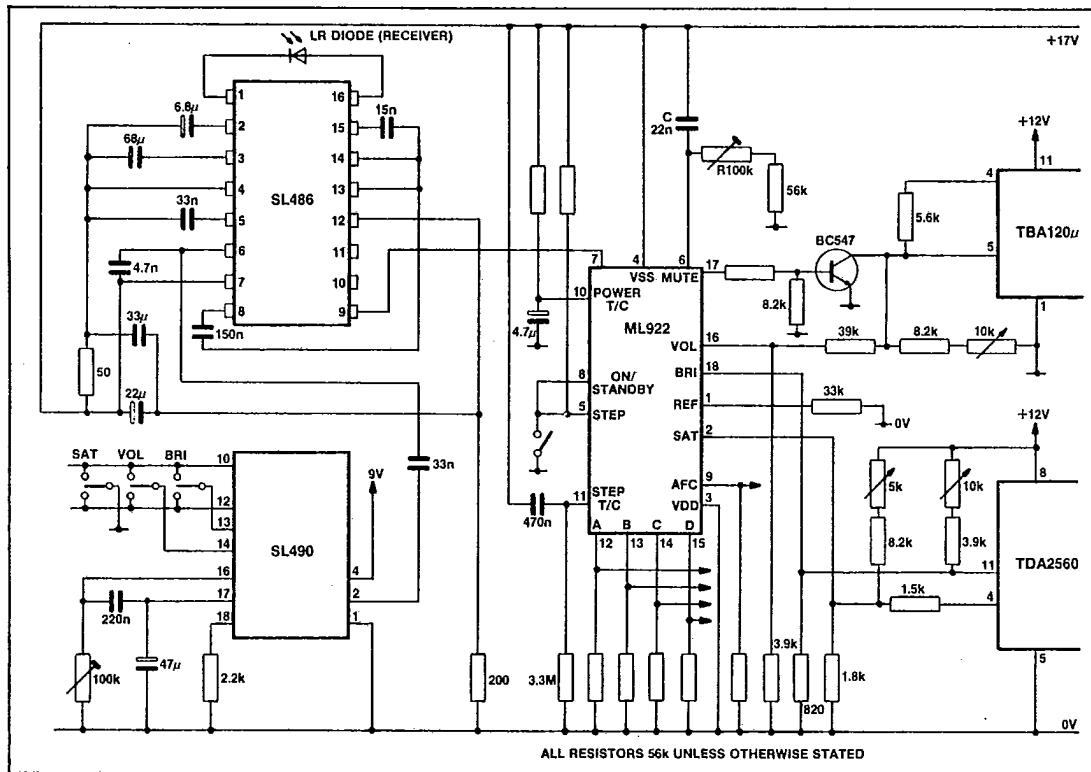

Fig.3 PPM infra-red receiver application with local up/down controls using a directly connected SL490
**ELECTRICAL CHARACTERISTICS (see Fig. 3)**